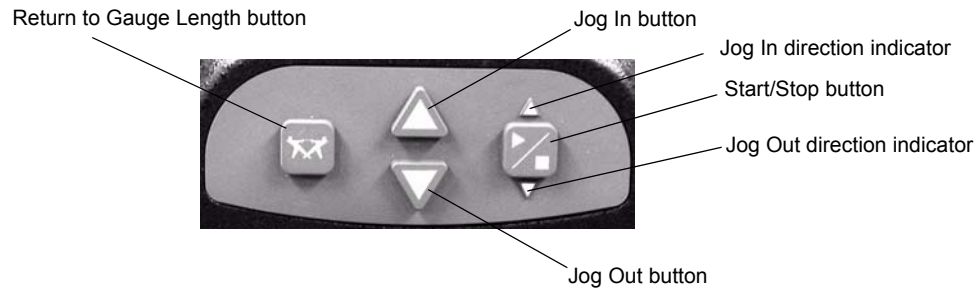

Figure 3-2. Benchtop tester control panel
11. Press the **Start/Stop** button on the benchtop tester (Figure 3-2 on page 3-19).
The control panel and summarized button functions are pictured in Figure 3-2.